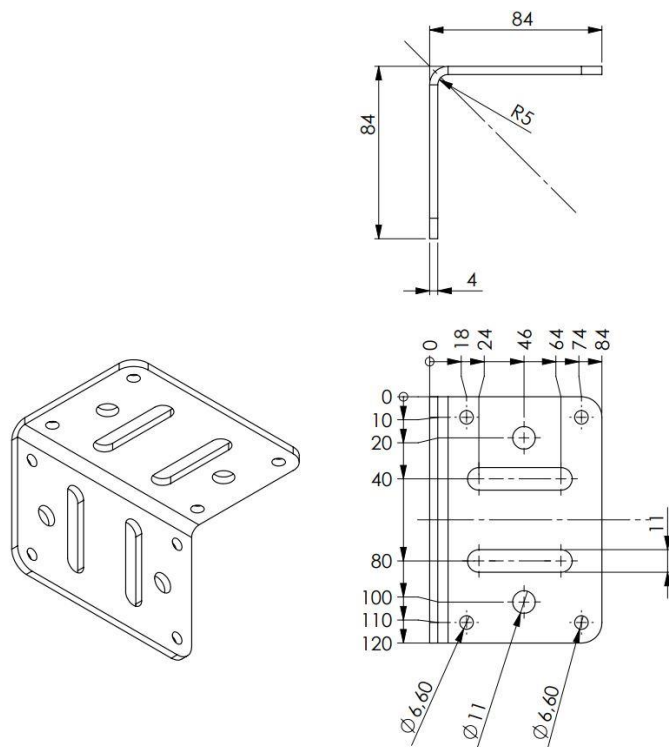

Fig. 5-4: Technical drawing of the corner brackets
- ▶ Drill two holes in the floor on both sides of the MRB (see Fig. 5.4). The length of the MRB can be found in *chapter 3*.